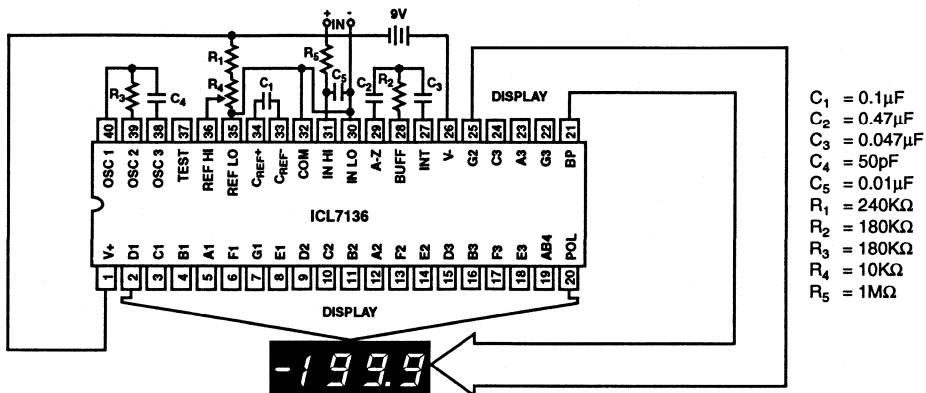
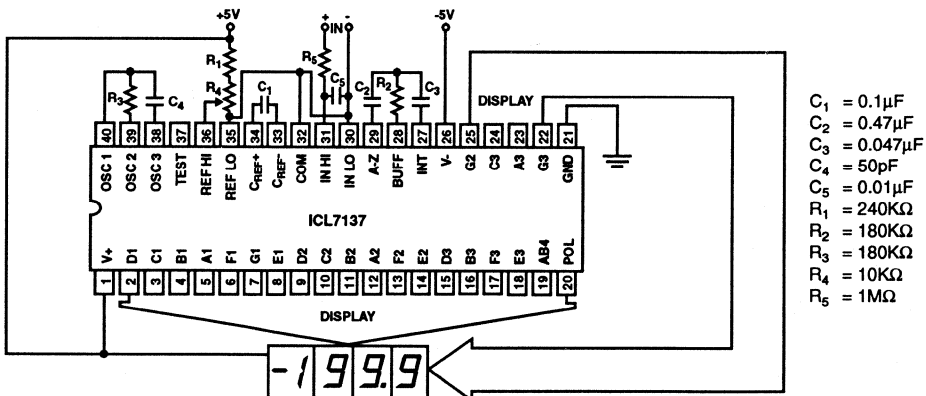

FIGURE 1. ICL7136 TEST CIRCUIT & TYPICAL APPLICATION WITH LCD DISPLAY COMPONENTS SELECTED FOR 200mV FULL-SCALE
FIGURE 2. ICL7137 TEST CIRCUIT & TYPICAL APPLICATION WITH LED DISPLAY COMPONENTS SELECTED FOR 200mV FULL-SCALE
- Unless otherwise noted, specifications apply to both the ICL7136 and ICL7137 at $T_A = +25^\circ C$, $f_{CLOCK} = 48kHz$. ICL7136 is tested in the circuit of Figure 1. ICL7137 is tested in the circuit of Figure 2.